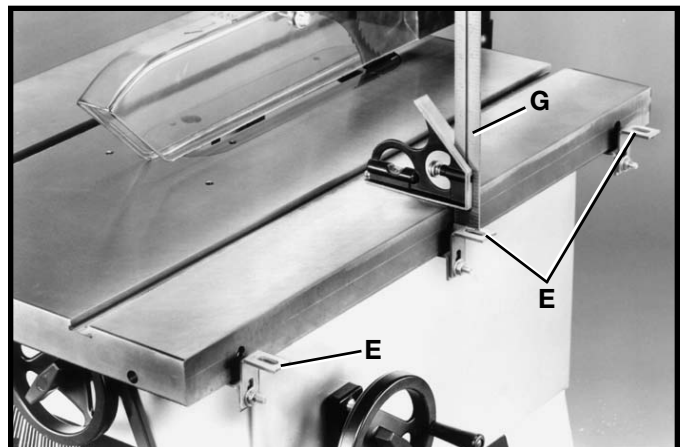

Fig. 47
5. Using a square (G) Fig. 47, set the angle brackets so they are approximately 3/4 from the top of the saw table. Final adjustments to angle brackets will be made later.